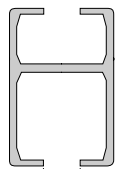

Figure 1.
1. Lay out all components. Locate bin bars, casters, and plastic end caps (Fig. 1) and set aside.